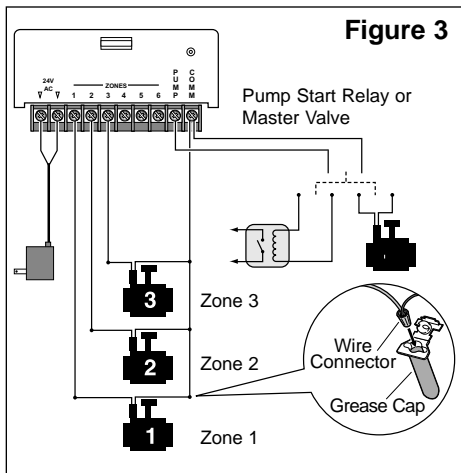

Figure 3
4. Secure all wire splices using a twist-on wire connectors. To prevent corrosion and possible short circuit, use a grease cap or similar waterproofing method to insulate each wire splice connection. See **Figure 3** insert on page 7.